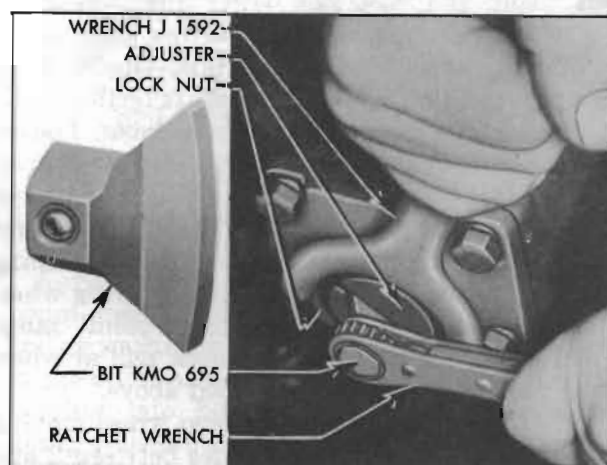

Figure 7-6—Adjusting Worm Thrust Bearings
6. Tighten housing end cover bolts. Loosen worm thrust bearing adjuster lock nut, using Wrench J 1592. Turn thrust bearing adjuster, using Adjuster Bit KMO 695 and a ratchet wrench, until a slight load is felt when turning steering wheel near extreme positions, then tighten lock nuts. See figure 7-6. **CAUTION:** *Do not back out adjuster far enough to permit*